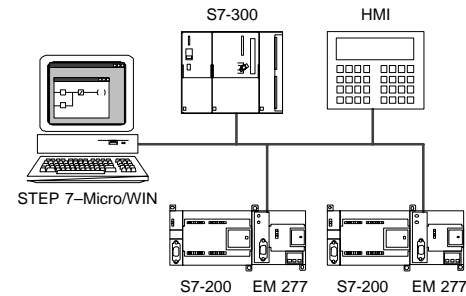

Figure 7-14 Baud Rates Above 187.5 Kbaud
For baud rates above 187.5 kbaud, the S7-200 CPU must use an EM 277 module for connecting to the network. See Figure 7-14. STEP 7–Micro/WIN must be connected by a communications processor (CP) card.